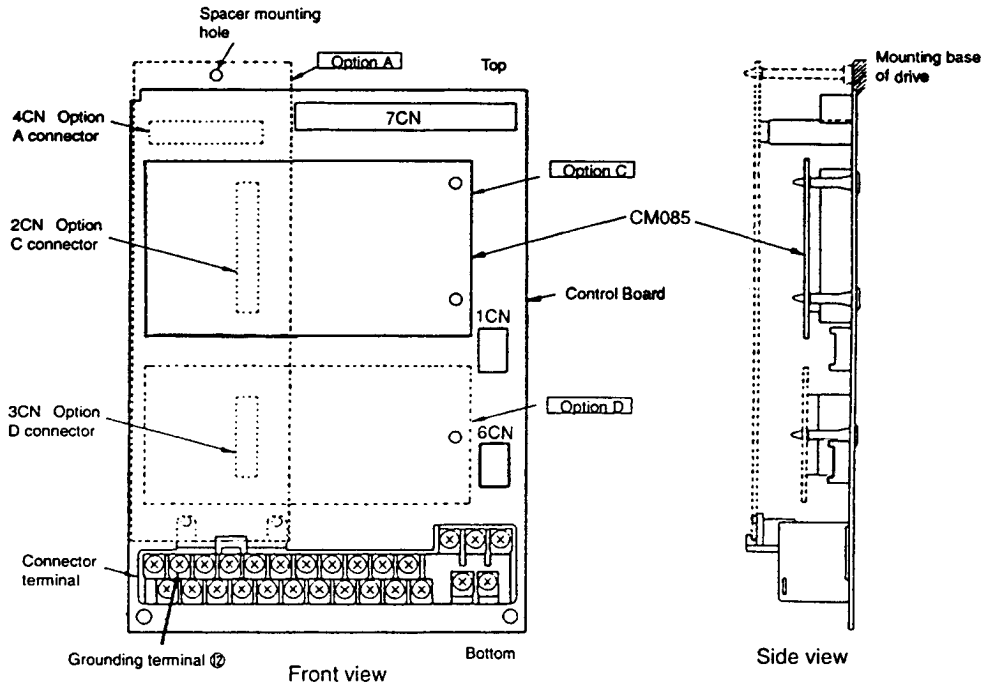
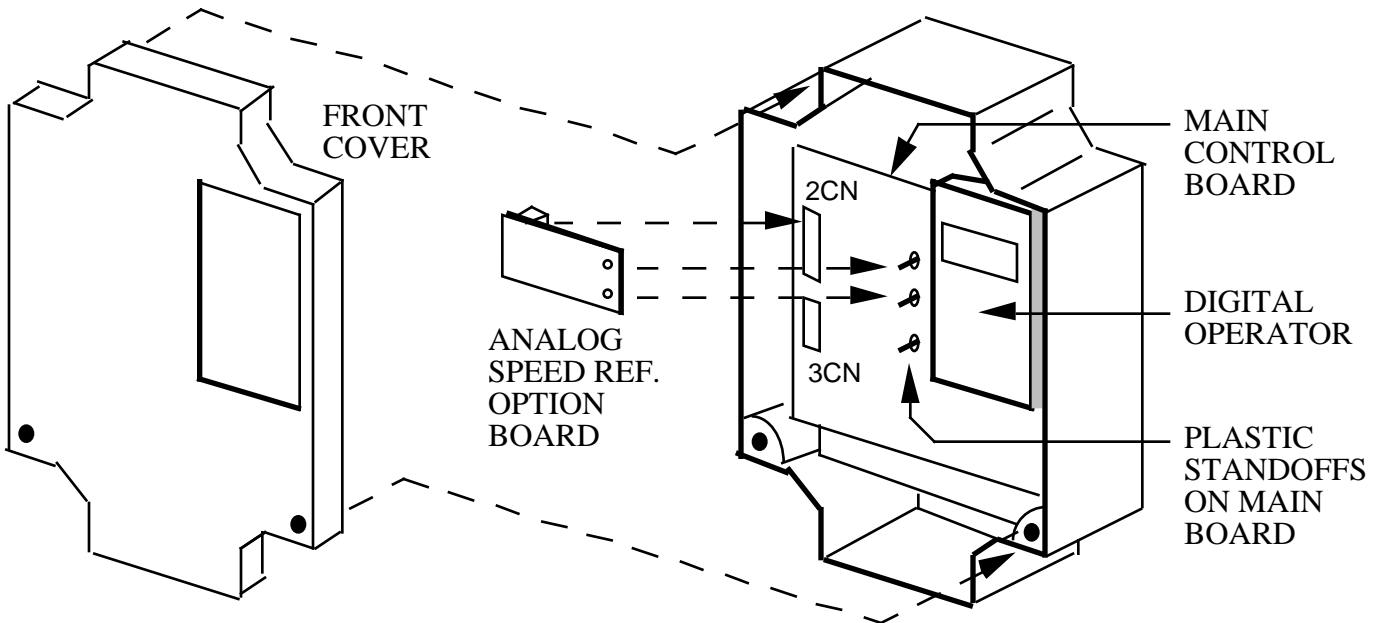

Figure 1. Installation of Analog Speed Reference (AI-14U) in GPD 515/G5
Figure 2. Installation of Analog Speed Reference (AI-14U) in GPD 503
4. See Figure 1 (GPD 515/G5) or Figure 2 (GPD 503). Install the option on the Main Control Board, 1PCB, and ensure 2CN is properly connected. Make sure Electrostatic procedure is followed.